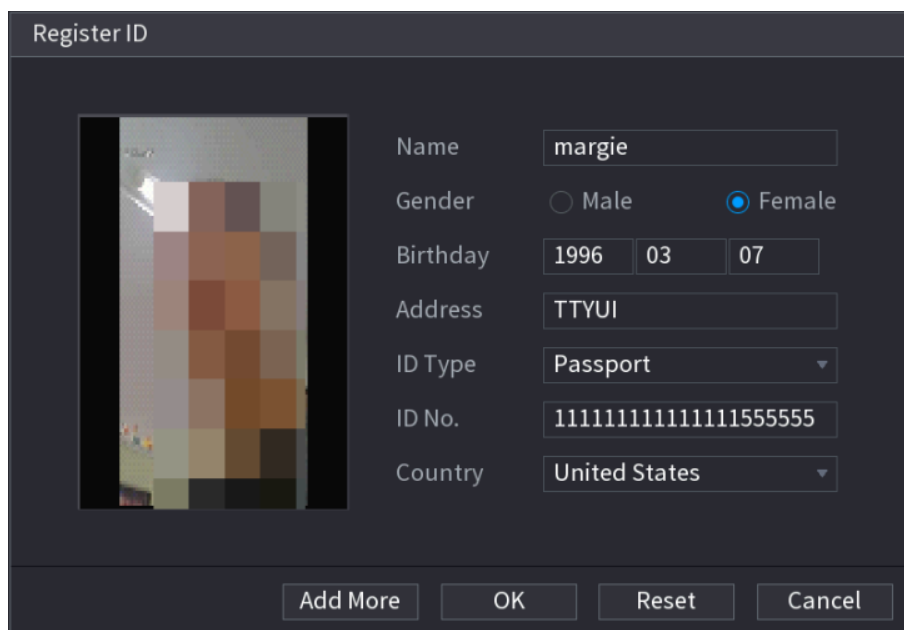

Figure 5-140
Step 5 Select a face picture and enter the registration information. See Figure 5-140.